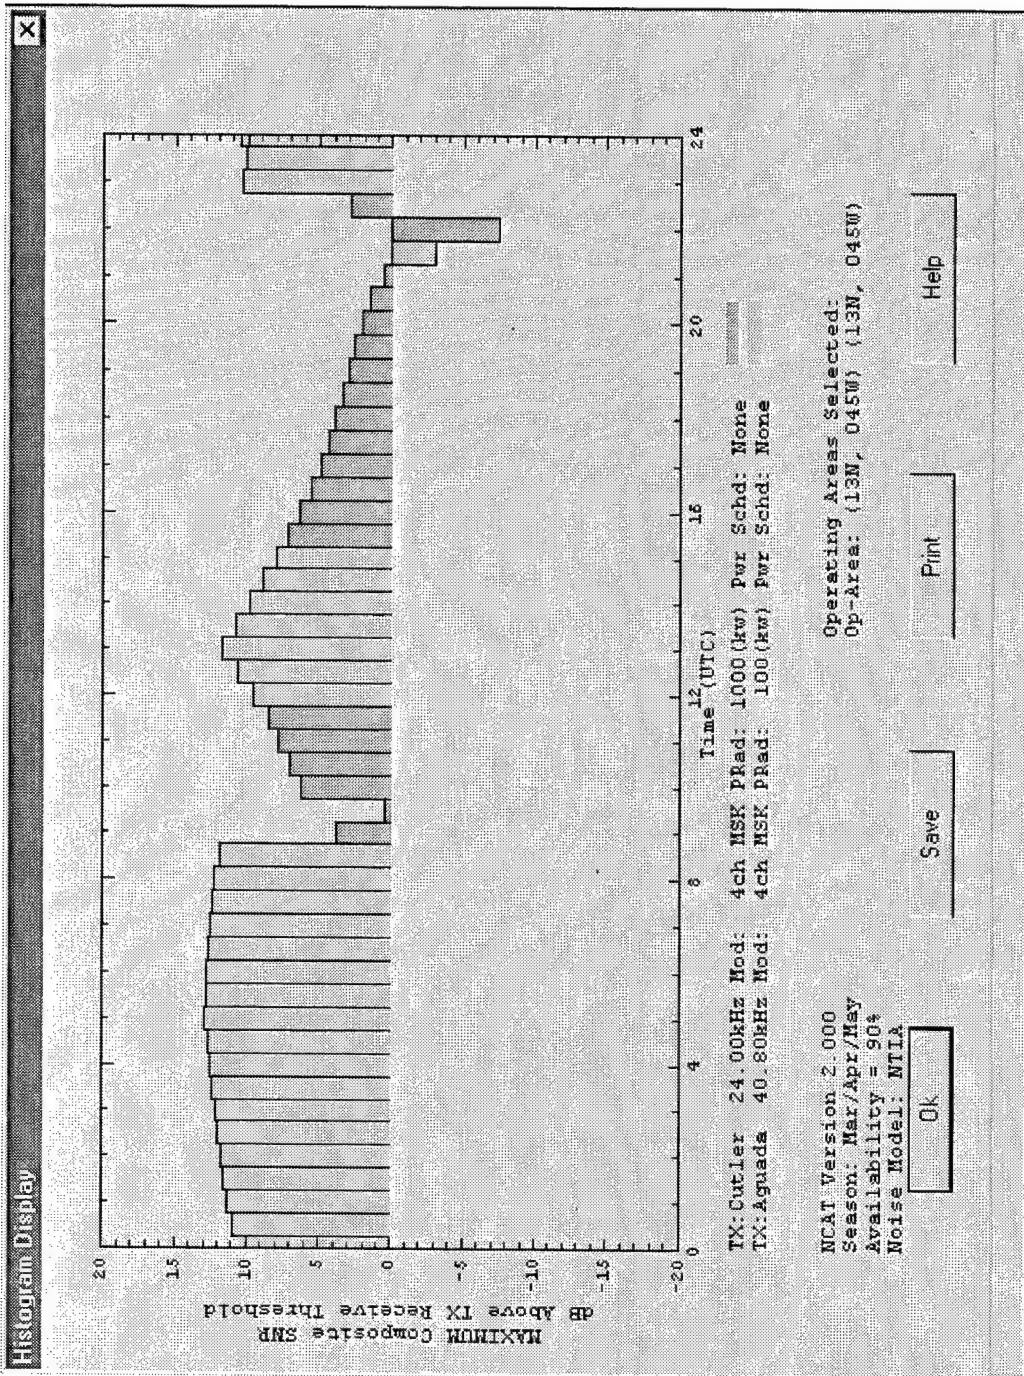

Figure 21. Example of a maximum composite SNR plot.
- A maximum composite SNR plot of the selected operating areas and transmitters selected. To perform a maximum composite plot, select Run Scenario -> Show SNR Composite (MAX)... Figure 21 shows an example of a maximum composite SNR chart.